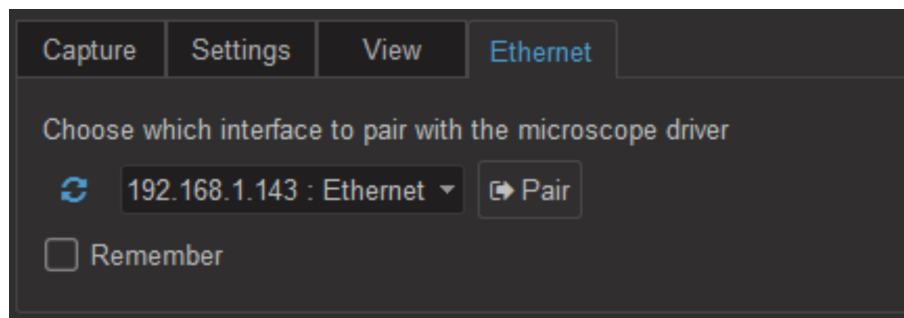

Figure 3.11: IP Address Configuration
4. Choose the proper network interface from the list in the *Ethernet Settings* box (Fig. 3.11), and click *Pair and Remember* to configure the microscope driver.